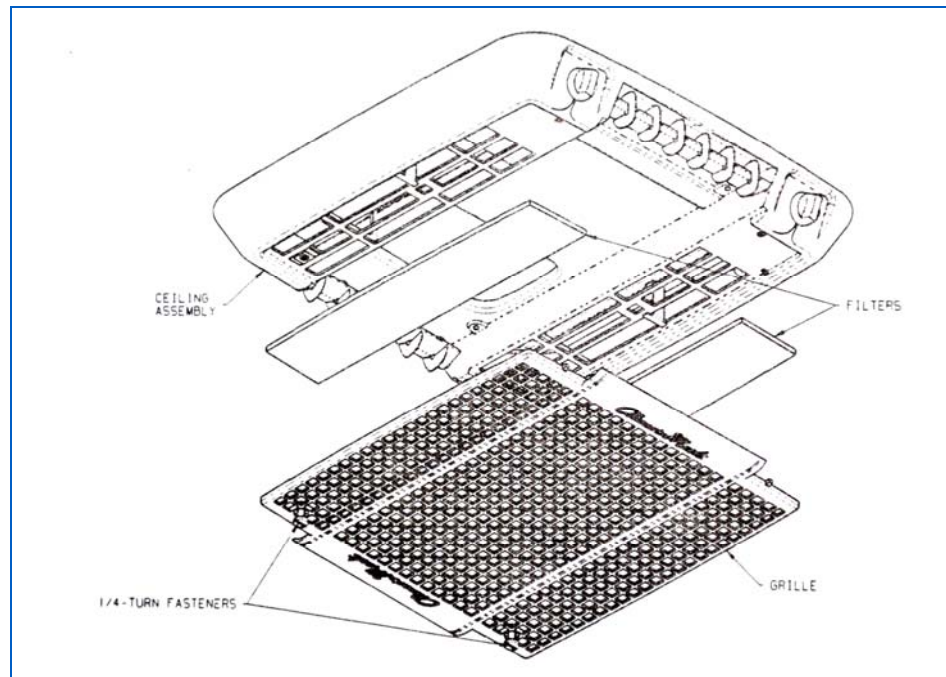

Figure 355: Removing the Air Conditioning Filters
1. Disengage the two 1/4-turn fasteners that secure the ceiling assembly grille to the ceiling assembly (see Figure 355).
3. Take filters out and either clean or exchange with other filters (see Figure 355).